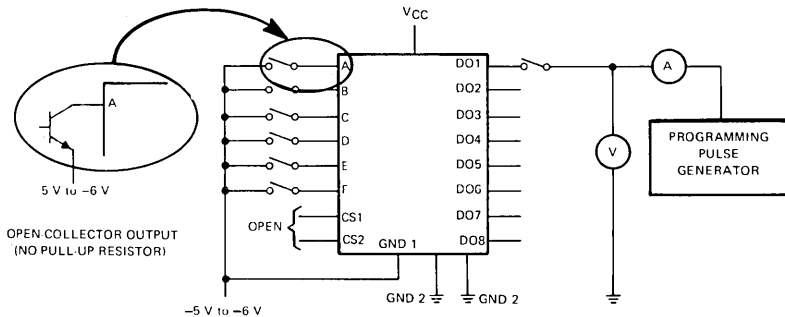

FIGURE 1—PROGRAMMING CONNECTIONS
1. Connect the memory as shown in Figure 1. To address a particular word in the memory, set the input switches to the binary equivalent of that word where a low logic level is as specified under "recommended conditions for programming" and a high logic level is either an open circuit or connection to an open-collector TTL gate with no pull-up resistor.